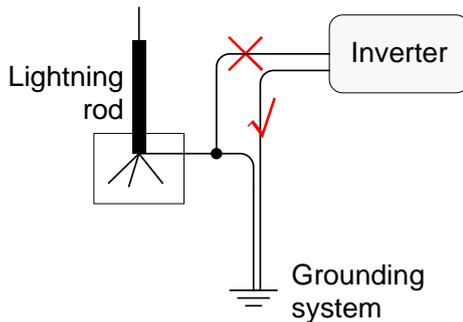

Figure3-30 Grounding diagram of inverter
- The grounding of the inverter and the lightning rod of the building that inverter installed cannot be the same, the two need to be separated (as shown in Figure3-30), or, lightning stroke will damage the inverter.